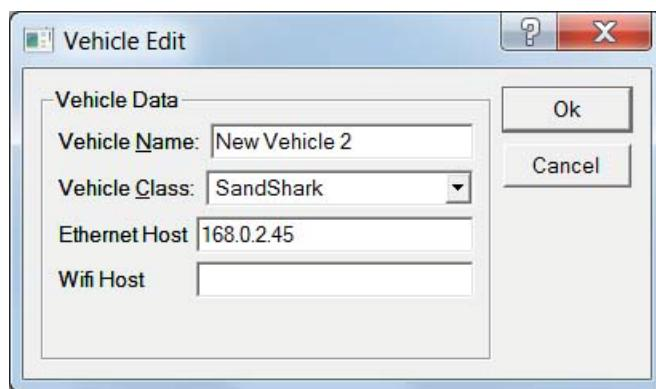

Figure 121: Vehicle Edit Window
- Click the **Edit** button next to the recent vehicles list. The **Vehicle Edit** window (see Figure 121) opens.